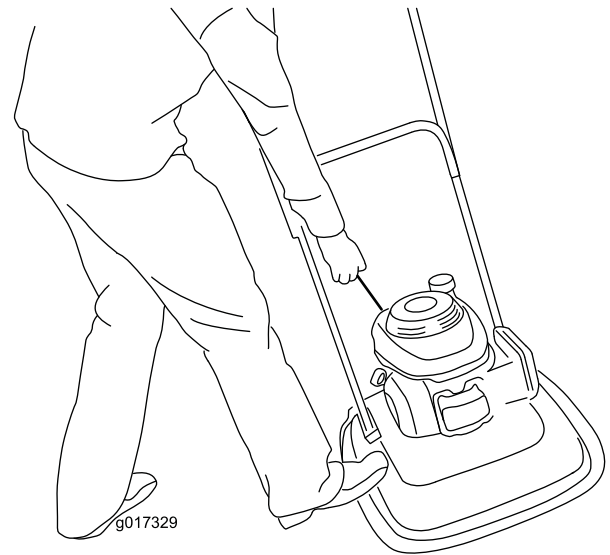

Figure 16
3. Place your foot on the deck and tilt the machine toward you (Figure 16).